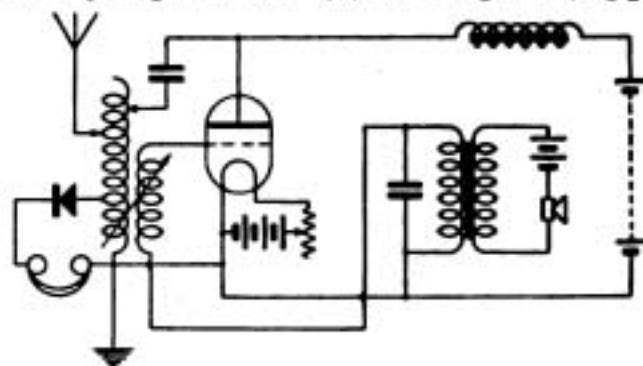

Fig. 2.
'3 (1) About 40 turns on a former 5½" diameter for each winding, windings separated by two or three layers of paper. Exact adjustment must be made by experiment. (2) See diagram (Fig. 2).